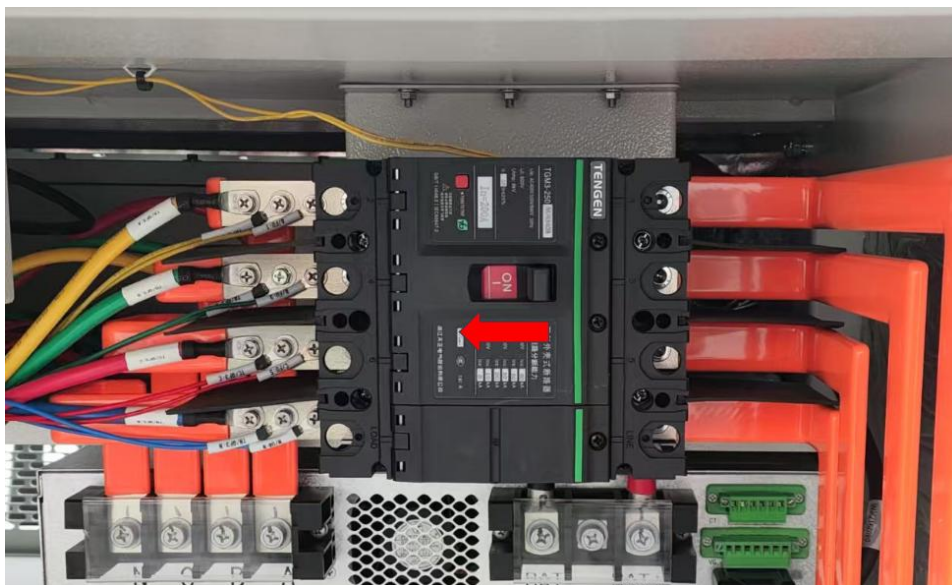

Figure 6.13 QF4 disconnected
Step 6: Turn off QF4 (the switch between the AC side of the liquid-cooling system and the power grid) as shown in Figure 6.13.